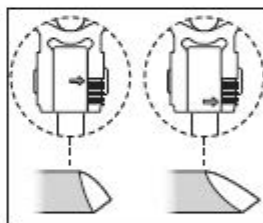

Fig 2
2. Adjust the angle of the shaft (C) relative to the tool holder (B) using the allen screw located inside the elbow joint (E). For shorter side bevels, such as those found on bowl gouges, lock the shaft in the uppermost position and for longer bevels, as on spindle gouges, lock the shaft in lower positions. See Fig 2.